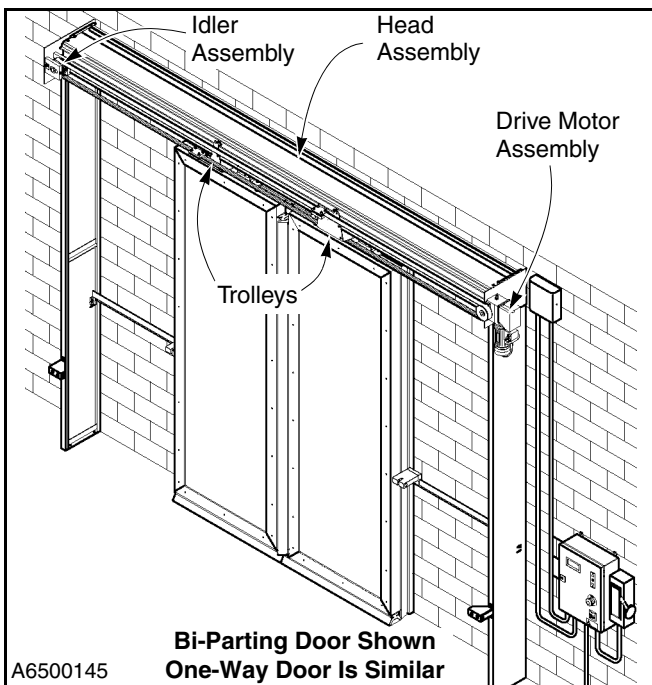

Figure 18
5. Check that all mounting hardware, such as nuts, bolts, and screws, etc., are tight throughout the head assembly, drive motor gearbox assembly, idler assembly, and the left and right trolleys. (See Figure 18.)